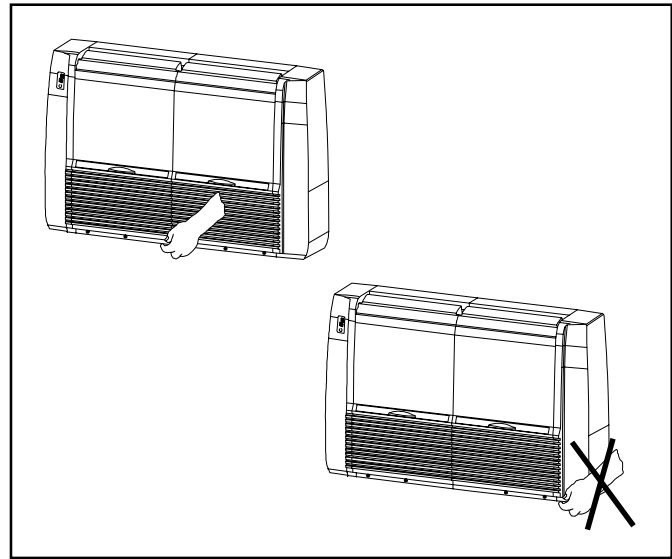

FIGURE 1 - HANDLING OF 42 LS UNITS.
- * Never lift or carry the evaporator unit by the plastic side parts. Hold it on the metal parts, as shown on figure 1.